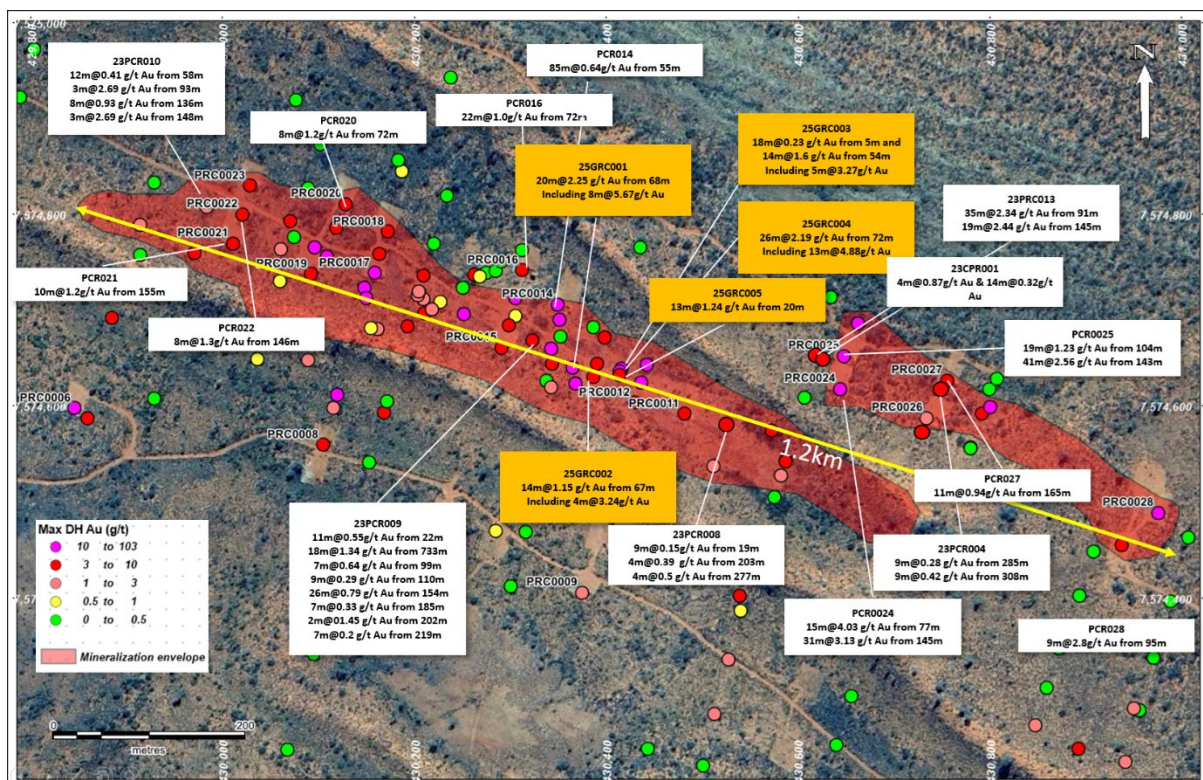

Figure 1: Five assay results from Phase I drilling campaign at Grace Gold-Copper Project
Paterson Resources Limited (“Paterson” or “Company”) (ASX: PSL) is pleased to advise that five assay results from Phase I of the comprehensive 8,500m Reverse Circulation (RC) drilling campaign demonstrated shallow zones of wide gold mineralisation along a 1.3km strike event (Figure 1 & Appendix 1).